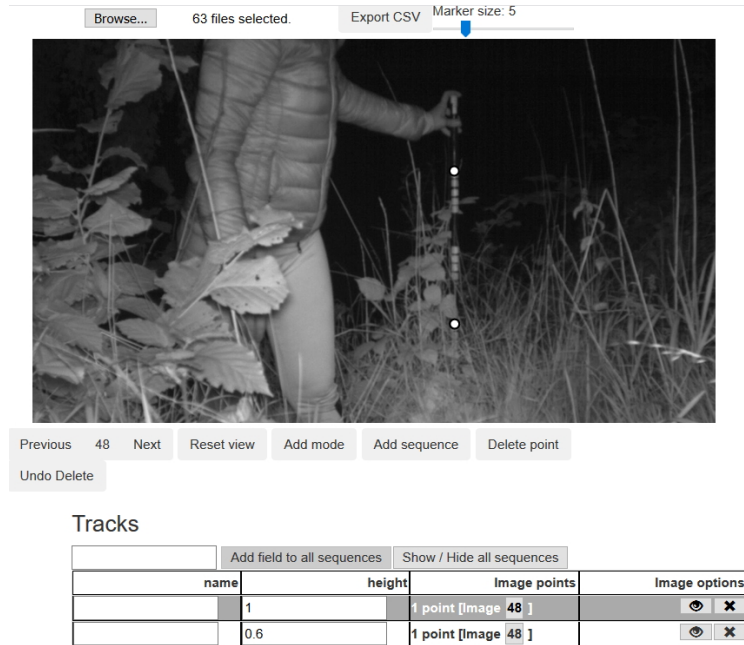

Figure 3: Animal tracker screenshot of a deployment calibration image with two pole positions digitised at given heights.
2. Starting about 1m directly in front of the camera, hold the pole vertically with its base on the ground so that it is clearly visible by the camera, and held still long enough to ensure a clear image (generally a few seconds). Fig. 3 shows an example of a resulting image.
For each pole seen to be in position resting on the ground, digitise the upper- and lower-most visible reference points, each as a new single-point sequence. For each point, record the height of the point in metres in a new field called "height". See Fig. 3 for an example.